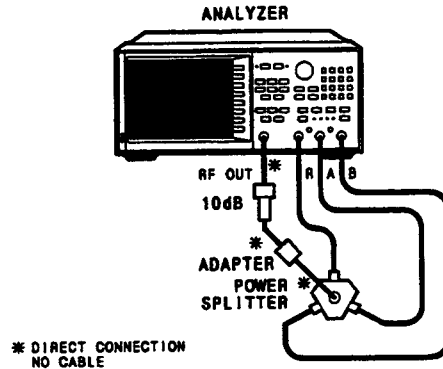

Figure 7. Frequency Response Test Setup
1. Connect the equipment as shown in Figure 7 and press **[PRESET] [MENU] [POWER] [1] [0] [x1] [SCALE REF] [.] [1] [x1]** to set up the instrument.